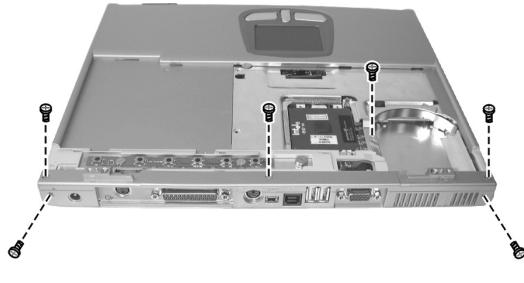

Figure 2-21
4. Remove two screws on the rear side of the notebook. Then remove three screws fastening the base unit cover and one screw in the CPU compartment. (Figure 2-21)